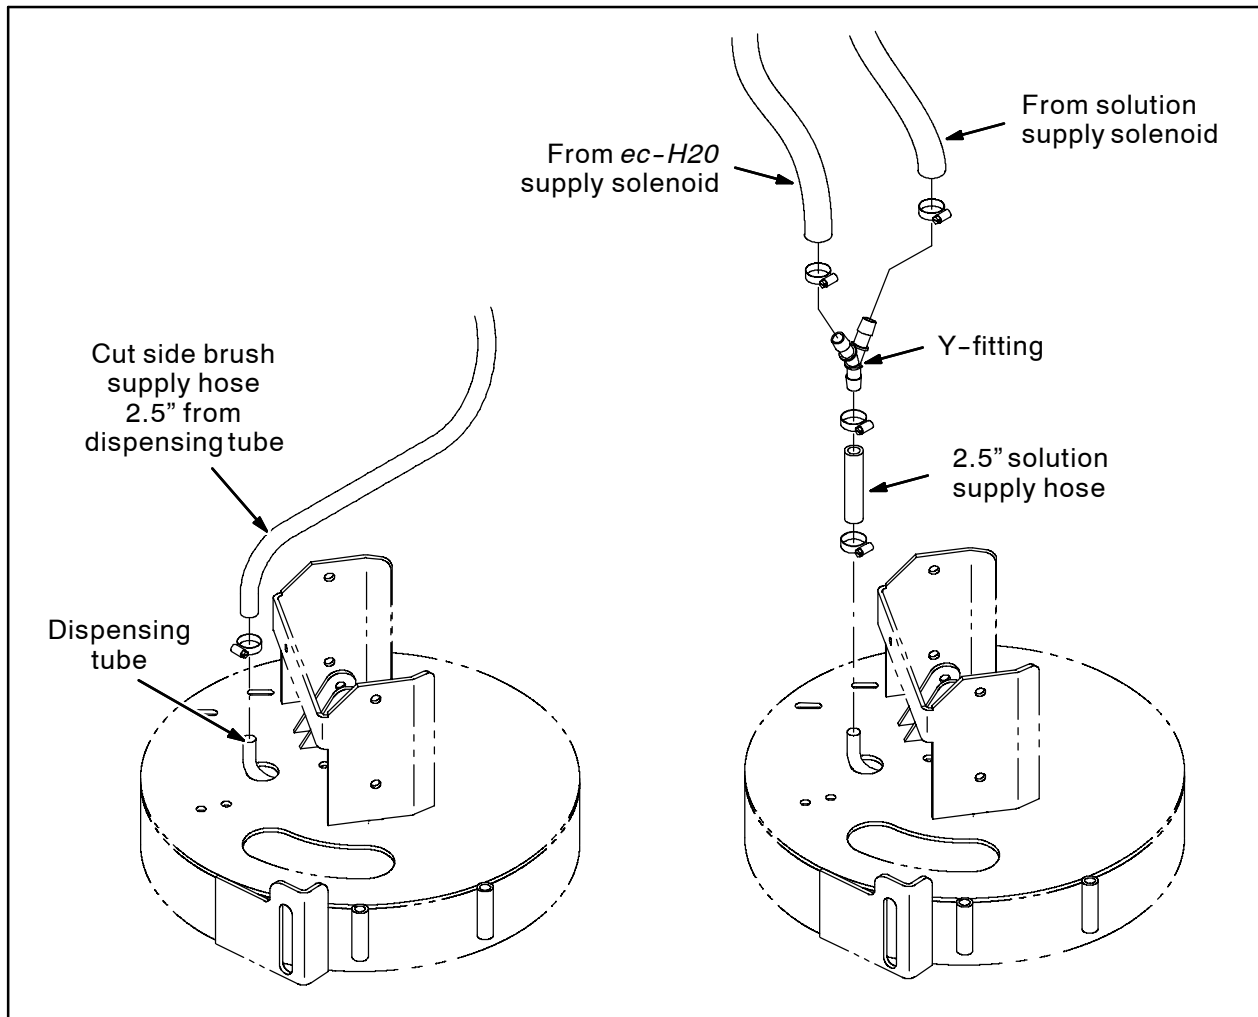

FIG. 10
34. Cut the solution supply hose 2.5" from where the hose is connected to the dispensing tube. Refer to Fig. 10.
35. Use a hose clamp to connect the y-fitting to the 2.5" solution supply hose. Refer to Fig. 10.
36. Use a hose clamp to connect the hose from the solution supply solenoid to the y-fitting. Refer to Fig. 10.
37. Use a hose clamp to connect the PVC hose from the solenoid to the y-fitting. Refer to Fig. 10.